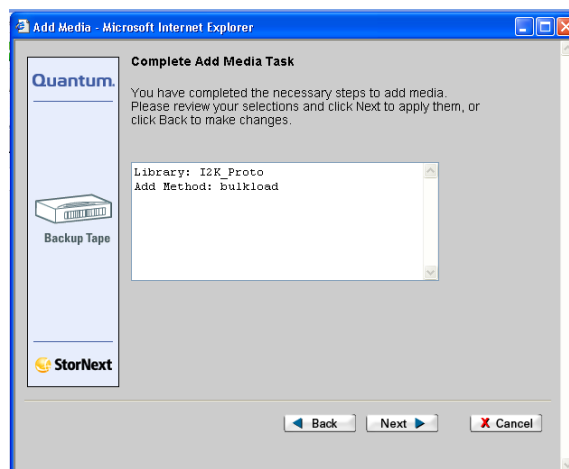

Figure 14.5-4. Complete Add Media Task Page
- 7 Select **Next** from the **Complete Add Media Task** screen (Figure 14.5-4).